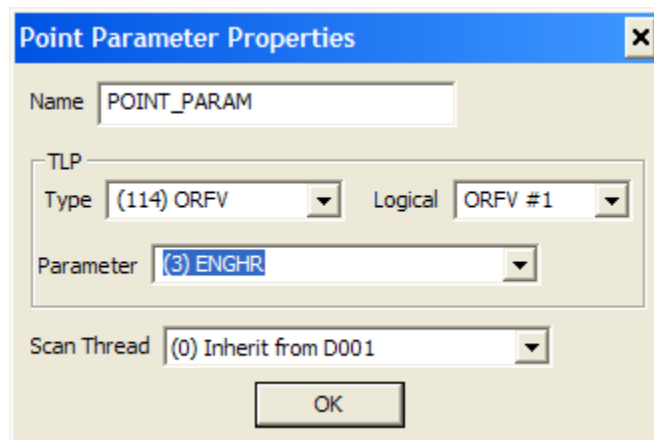

Figure 32 Point Parameter Properties
Adding a new point parameter brings up the dialog shown in Figure 32. The point parameter must be given a unique name which is a valid DeltaV identifier. The TLP address of the parameter can be selected from the drop lists provided. If a valid data source was selected when the device was added, the list of point types and logical points will be limited to only those actually available in the ROC. You can also select which scan thread should update the point parameter's function block in DeltaV. "(0) Inherit from <device name>" is the default option and assigns the point parameter to whatever thread was specified in the device configuration.